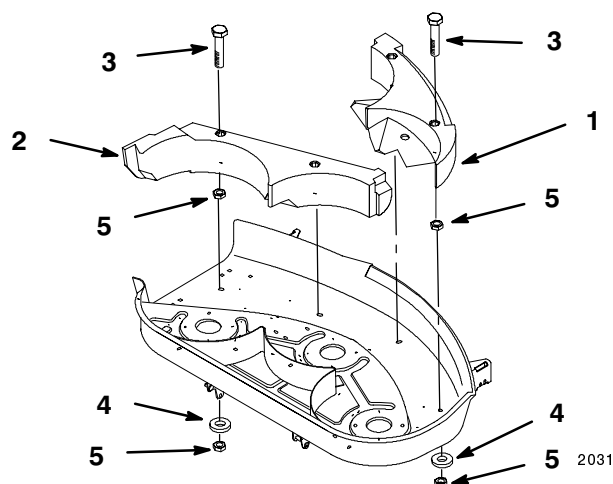

Figure 49
2. Place the left side baffle inside cutting chamber. Secure the baffle to mower with 1-1/4" bolts through baffle and outside of deck (Fig. 49). Secure with 5/16" lock nuts.
2. Remove lock nuts from right side baffle (Fig. 49). Lift baffle and slide out of interlock with left side baffle to remove.